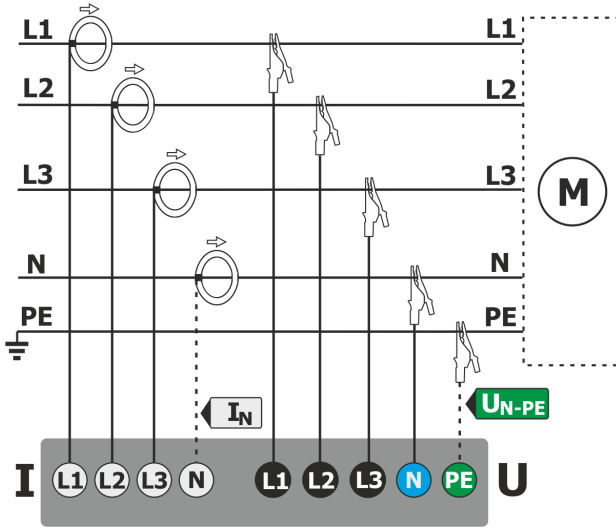

Fig. 60. Wiring diagram – 3-phase 4-wire, 3-phase 4-wire (no U L2) / 2 ½ element (no V L2/B) systems.
- 3-phase 4-wire, 3-phase 4-wire (no U L2) / 2 ½ element (no V L2/B) (Fig. 60),
*In order to correctly calculate total apparent power S_e and total Power Factor (PF) in a 4-wire 3-phase system, it is necessary to measure the current in the neutral conductor. Then it is necessary to activate option **N conductor current** and connect 4 probes, as shown in Fig. 60. More information on total apparent power S_e - see sec. 5.3.5.*